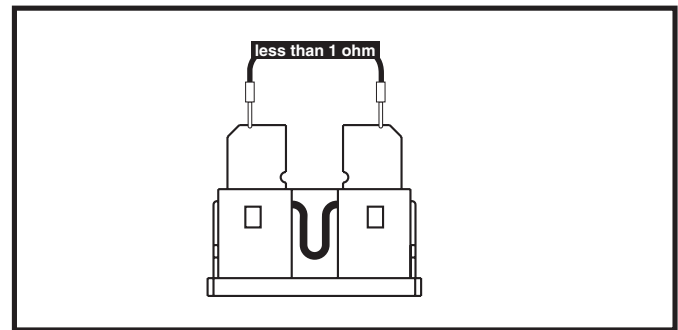

Figure 33. Fuse 7c
28. Measure resistance across the two fuse blades. **See figure 33.**